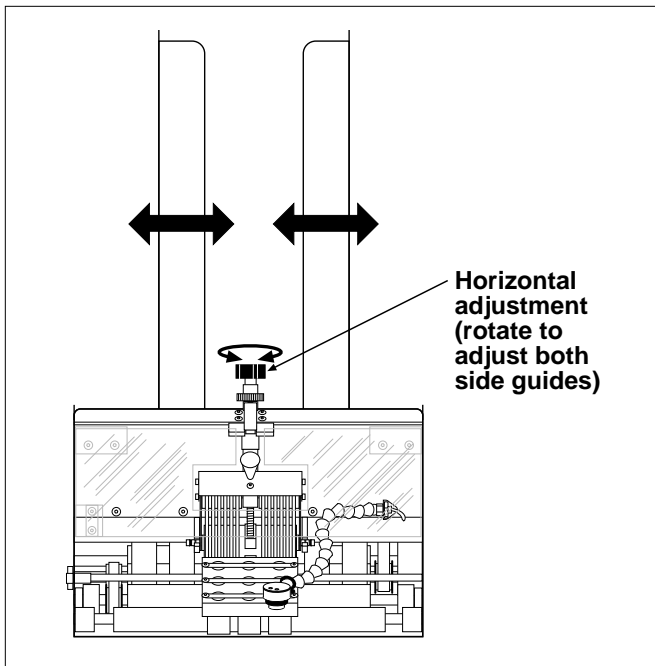

Figure 3-6. Horizontal Adjustment of Side Guides
- 1) *Single-Knob:* Both side guides controlled simultaneously by a single knob (as shown in Figures 3-6 and 3-7).
Single-Knob Side Guides. To adjust each side guide for proper *equidistant* horizontal spacing using the single-knob adjustment, follow these steps (Figure 3-6):